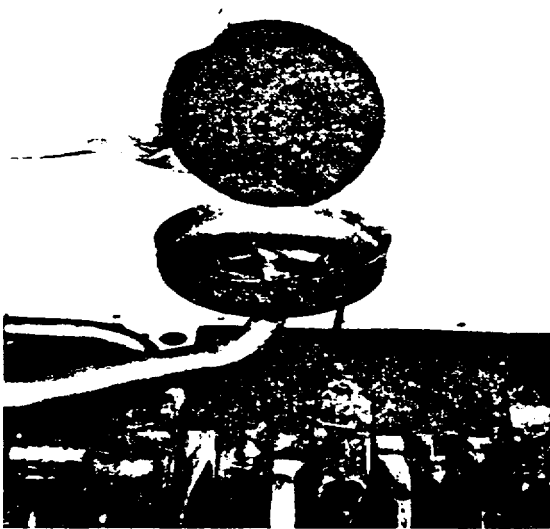

Fig. L.2.
1. Remove the sump securing setscrews and withdraw the sump from the engine. Remove the strainer from the suction pipe of the oil pump (see Fig. L.2). With lowline engines, the sump strainer is of a different pattern to that shown in Fig. L.2. but its removal is similar.